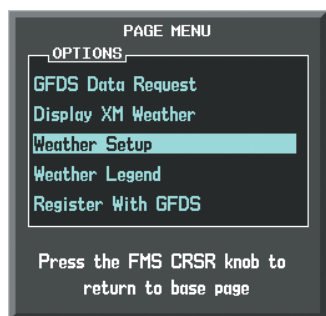

Figure 6-53 Weather Data Link (GFDS) Page Menu
- 3) With 'Weather Setup' highlighted, press the **ENT** Key (Figure 6-53).